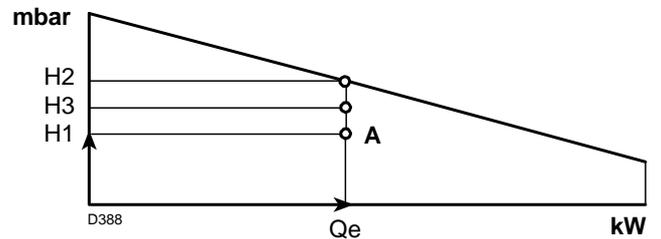

Fig. 40
point A that must remain within the firing rate (Fig. 40)
- 4 -Trace a vertical line from point A, Fig. 40, and find the maximum pressure H2 of the firing rate
If H3 is greater than H1, as in Fig. 40, the burner can produce the delivery requested.